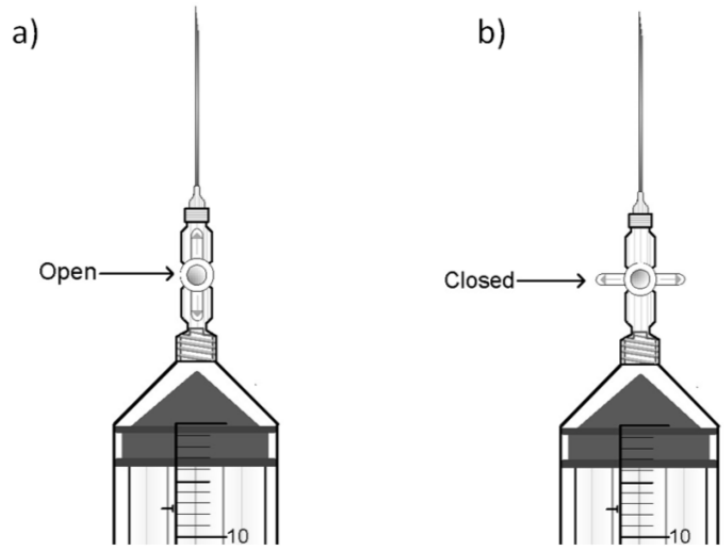

Figure 10. Example of a syringe with a stopcock with attached needles in the a) "open" and b) "closed" positions
- e) With stopcock still 'open' and syringe held upright, insert the needle through the rubber septum of the gas vial (Figure 10 and Figure 11) and push gas into the vial. Properly evacuated vials will automatically suck in the gas. Push as much gas in as possible.